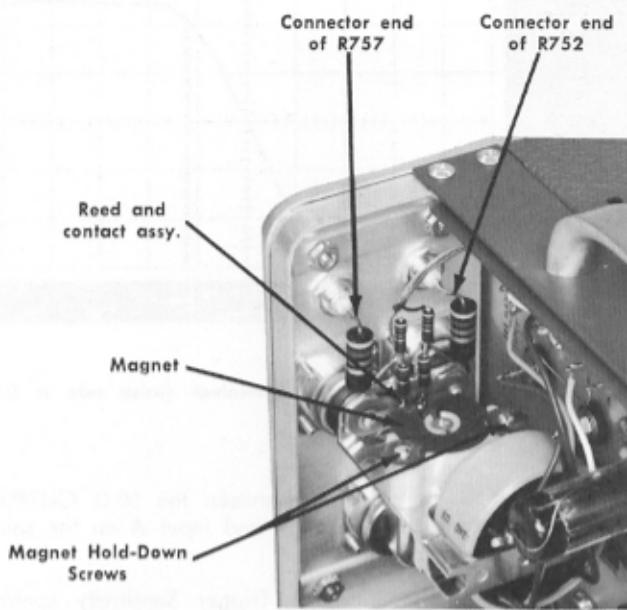

Fig. 6-7. Mercury pulser assembly. Test points for step 5h are shown also.
(2) Loosen the magnet hold-down screws (see Fig. 6-7) and carefully move the magnet closer to or away from the reed and contact assembly. At the same time, shift the magnet slightly from side to side.
\*For this check, turn off the Type 109, connect a 12" jumper lead from the +10 V test point (see Fig. 6-3) to the connector end of R752 (see Fig. 6-7) and turn on the Type 109. Check waveform amplitude and duration. Then, repeat the check by connecting the jumper lead between the same +10 V test point and the connector end of R757 (see Fig. 6-7).